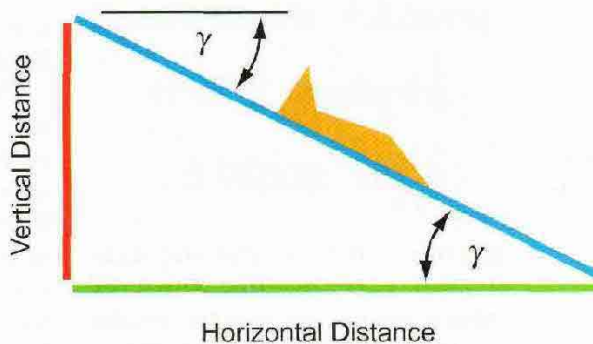
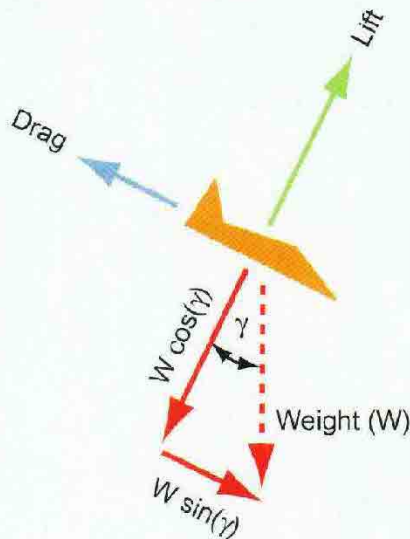
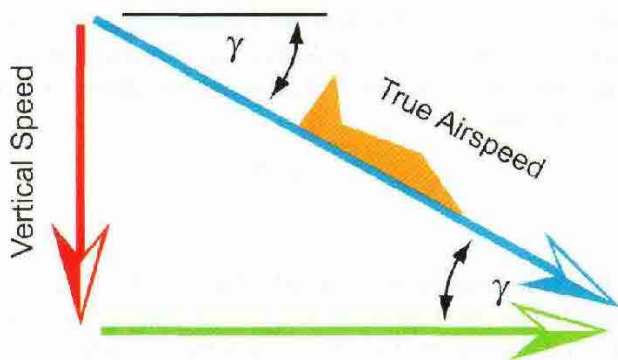

Figure 1
Figure 2
Figure 3
Figure 1 shows a profile view of our example airplane's engine-out descent. The smaller the flight path angle (γ , pronounced gamma), the bigger the ratio of horizon-
During a glide forces act on our airplane just like they do during every other phase of flight, except there's no thrust after the engine quits. That leaves lift, drag, and weight as the only forces, and Figure 2 shows these forces with a little trigonometric extra. The weight arrow (W), which always points down regardless of the airplane's direction or attitude, is a dashed line, and the weight components (the trig sine and cosine functions) are solid arrows that are parallel to the lift (L) and drag (D) arrows. By using these parallel weight components we can see the relationship between the forces more easily.
We used the same Greek letter γ in Figure 2 that we used in Figure 1's flight path angle because γ represents the same engine-out flight path angle in both figures. Now let's rearrange the two force equations.
In Figure 1 we showed that the smaller the flight path angle, the farther the glide distance. Reversing that, we achieve the greatest glide distance when the flight path angle is smallest, which means the $\tan(\gamma)$ is smallest, which means $1/\tan(\gamma)$ is largest, which means lift/drag is largest. So it makes sense that the maximum engine-out glide distance occurs when the airplane is flown at its maximum lift-to-drag ratio (L/D).
Most of us don't have a flight path angle or L/D indicators in the cockpit, so how can we find the airspeed that yields the smallest flight path angle? Well, speed is simply distance divided by time. So let's redraw Figure 1 in terms of speed. Figure 3 shows the relationship between our airplane's true airspeed, vertical speed, and the same engine-out flight path angle, γ .